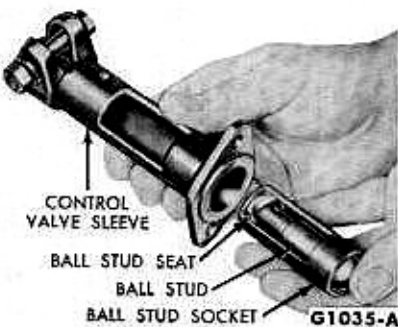

FIG. 13—Ball Stud, Seat, and Socket Installation
2. Place the socket in the control valve sleeve so that the threaded end of the ball stud can be pulled out through the slot in the sleeve (Fig. 13).